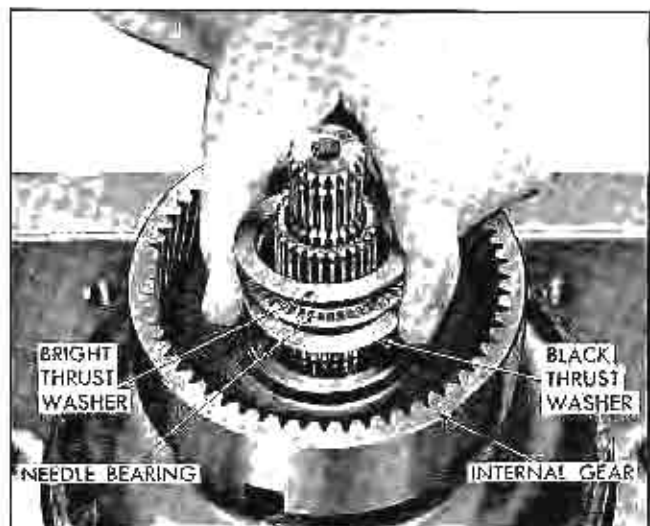

Fig. 166 Installing Internal Gear, Needle Bearing and Washers for Front Unit End Clearance Check
2. Install front unit internal gear over coupling driven shaft (Fig. 166).